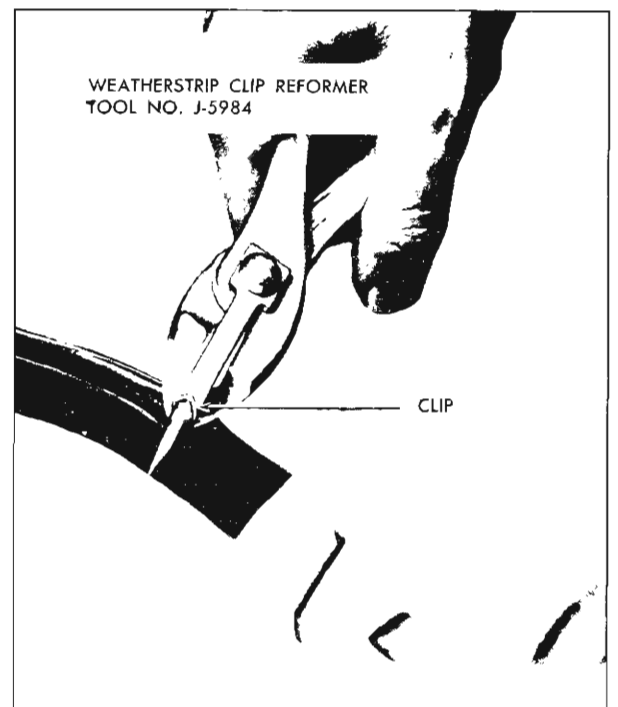

Fig. 3-33 Weatherstrip Clip Reformer
1. Check weatherstrip attaching clips for proper contour and reform, if necessary, using clip reforming tool J-5984 (see Fig. 3-33).
1. Check all weatherstrip attaching clips for proper contour and reform, if necessary, using clip reforming tool J-5984 (see Fig. 3-33).